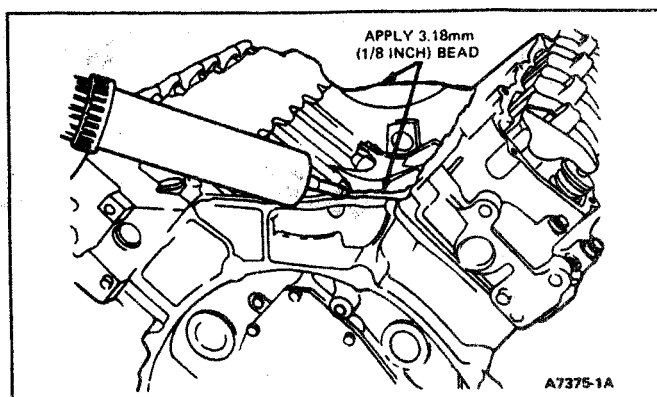

FIG. 58 Applying RTV Sealant
6. Clean cylinder block gasket surfaces of any old RTV Sealant or oil. Apply a 3.18mm (1/8 inch) bead of RTV Sealant D6AZ-19562-A, or equivalent, to each end of the cylinder block (Fig. 58).